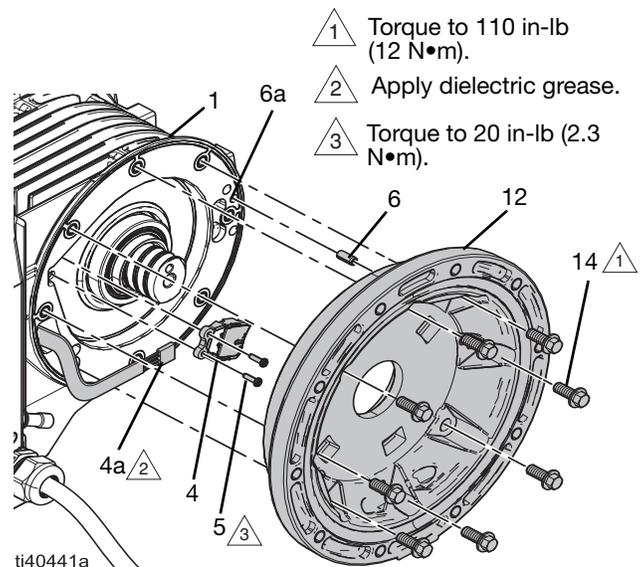
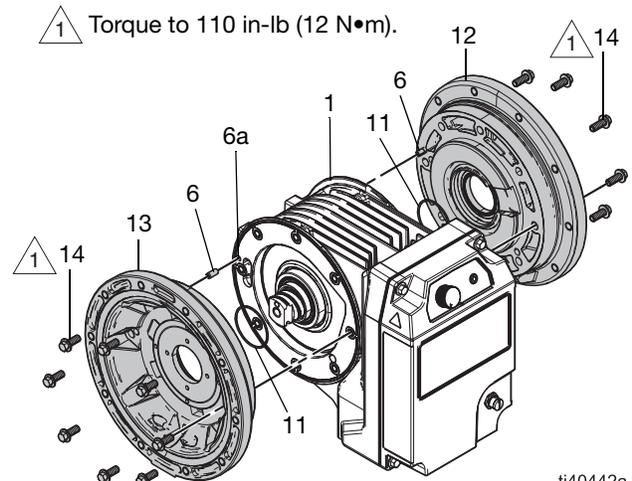

FIG. 12: Motor Sensor
FIG. 13: Center Section, Load-side
See Fig. 12.
See FIG. 12 and FIG. 13.
2. Carefully install the sensor-side stator cap (12):
- a. Install the seal (11) in the stator cap (12).
- b. Align the pin (6) in the stator cap (12) with the pin hole (6a) on the stator housing (1) and gently insert the stator cap (12). Ensure the stator cap is properly set in place. See FIG. 12.
See FIG. 12 and FIG. 14.
4. Install the seal (47) on the hub (8).
5. Assemble the other seal (11) to the hub (8).
6. Install the preload nut and hub (9, 8) on the load-side cap (13):
- a. Apply anti-sieze to the threads of the hub (8).
- b. Thread the preload hub (8) onto the load-side stator cap (13). Ensure the lips of the preload hub (8) face toward the center of the rotor (7).
- c. Spin the hub (8) until the seal (47) touches the bore of the cap (13).
- d. Install the load-side stator cap (13) onto the stator housing (1). First, install the seal (11) in the stator cap (13). See FIG. 13.
- e. Align the pin (6) in the stator cap (13) with the pin hole (6a) on the stator housing (1) and gently insert the stator cap (13). Ensure the stator cap is properly set in place. See FIG. 13.
- f. Install the fasteners (14) into the stator cap (13). Torque to 110 in-lb (12N•m). See **Torque Instructions**, page 37.
- g. Insert the preload hub installation tool into the preload hub (8).
- h. Use an applicable wrench on the preload hub installation tool to torque the preload hub (8) to 20 ft-lb (27 N•m).